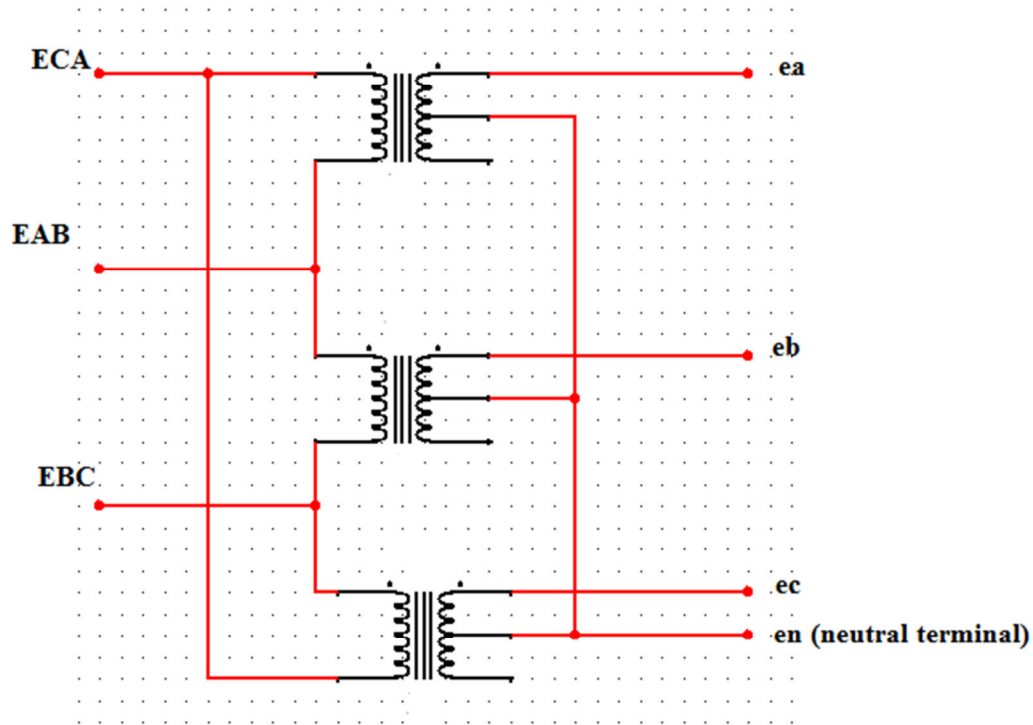

Figure 6.3: Delta to Wye Conversion
- Delta connection is available in the lab. Convert this delta into wye, by using transformer configuration shown in Figure 6.3. Step down transformers will be used in order to work at low voltage levels.